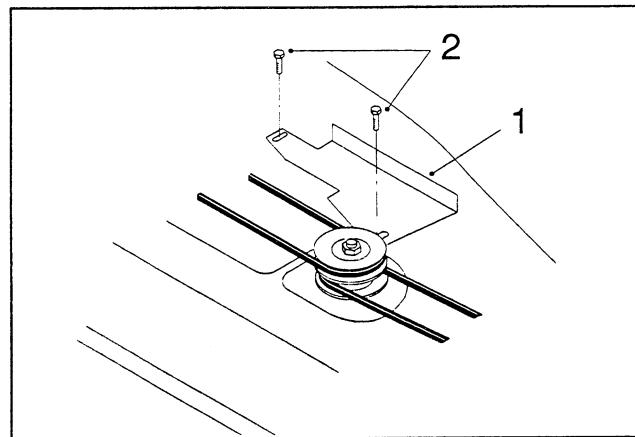

Figure 6
1. **42" mowers only:** Mount the mower belt-cover bracket (Fig. 6) to the mower using two  $1/4" \times 1/2"$  thread-forming hex-head flange screws in the same holes that the original cover used.